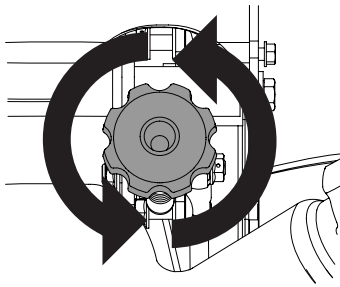

Figure 30
1. If the mower tracks (pulls) to the right, rotate the tracking knob to the left in 1/4-turn increments until the mower tracks straight. See Figure 30. Turn left to go left.
2. If the mower tracks (pulls) to the left, rotate the tracking knob to the right in 1/4-turn increments until the mower tracks straight. See Figure 30. Turn right to go right.